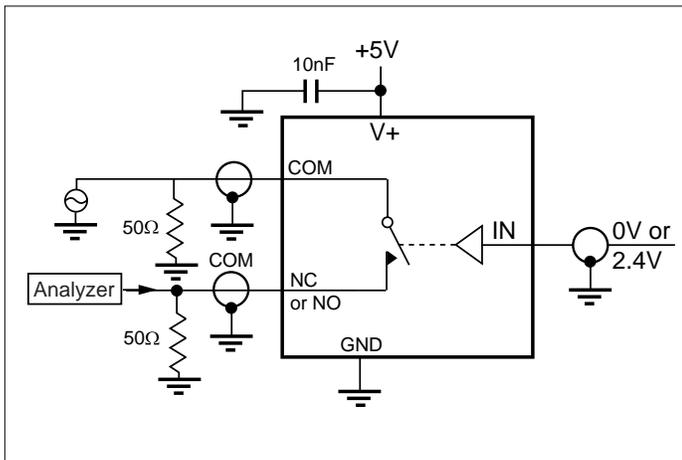

Figure 3. Off Isolation
- Off Isolation = 20log₁₀ [V_{COM} / (V_{NO} or V_{NC})]. See figure 3.